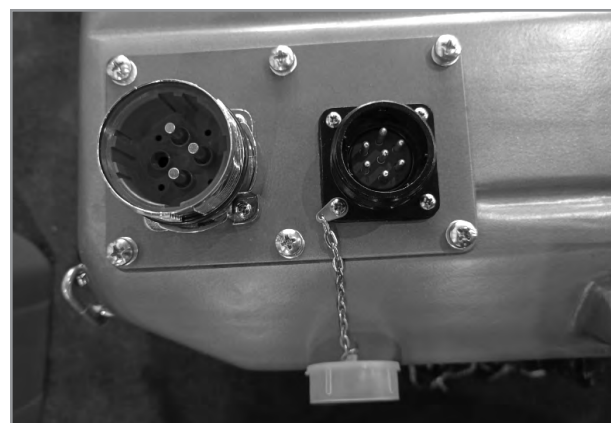
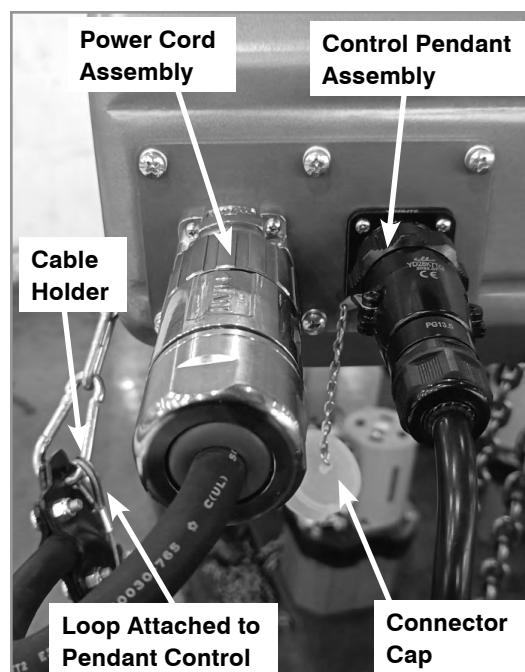

Figure 2
Figure 3
2. Open the connector caps on the two female connectors (Figure 2) and two male plugs (Figure 3).
3. Check the orientation of notches on the female connectors and male plugs, correctly insert the 4p plug into the 4p female connector on the left and insert the 7p plug into the 7p female connector on the right with sufficient force (see Figure 3).